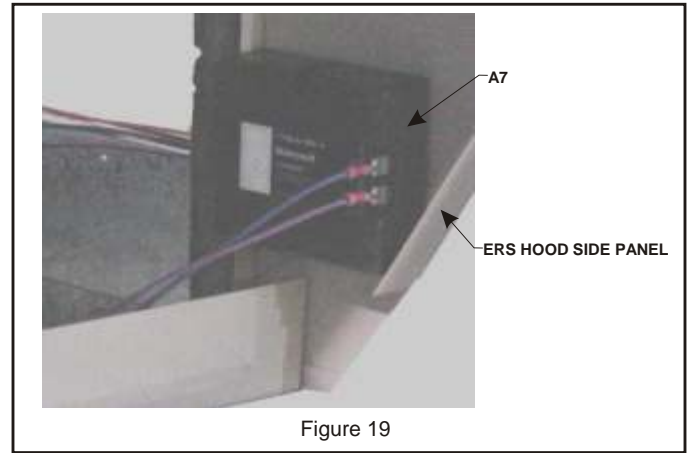

Figure 19
12. Installations using an A7 enthalpy sensor - Remove the screws to the filter access panel of the fresh air hood on the ERS and remove the air filter. Reinstall the A7 enthalpy control sensor with retained screws removed on the bottom panel of the fresh air intake hood. See **Figure 19**.